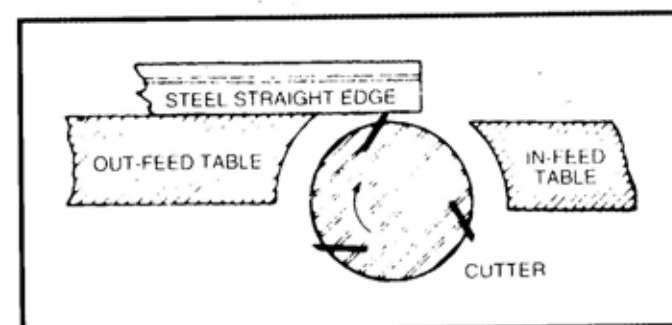

Fig. 41
4. Place a steel straight edge on the outfeed table, extending over the cutterhead as shown in Fig. 41.